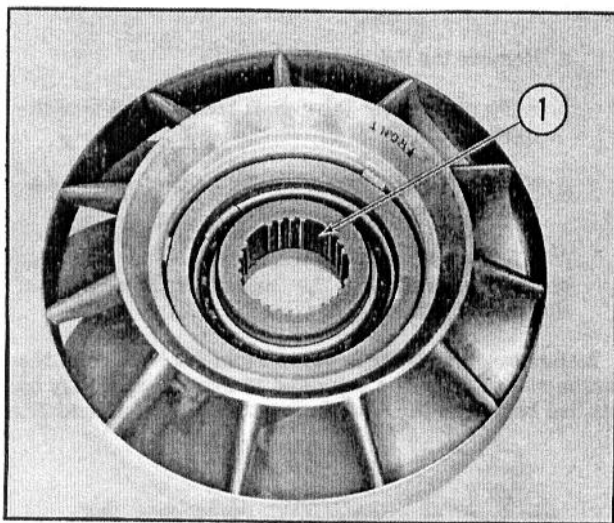

Fig. 14 — Installing the Inner Race
8. Install the inner race with the splined end of the race up, as shown in Fig. 14.